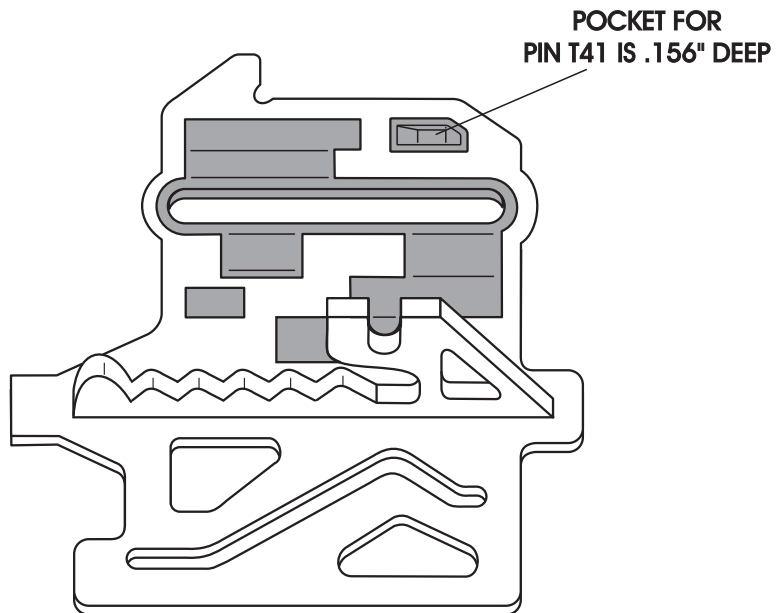

Figure 7
- (4) RANGE SENSOR SELECTOR PLATE - The pocket for the T41 pin was made deeper and is illustrated in Figure 7.
Special Note: The 1999 - 2003 range sensor plate can be modified and used with the updated Solenoid Pack. by making the T41 pocket .040" deeper (Figure 7).